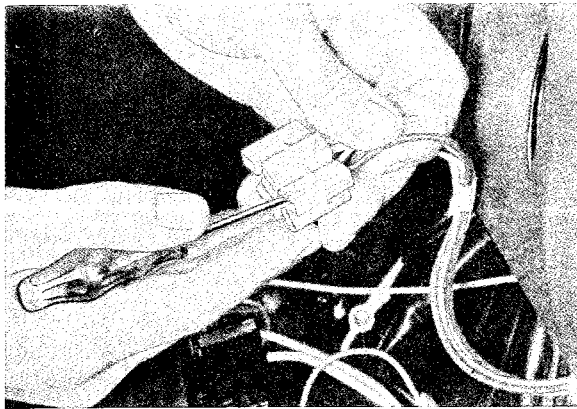

Fig. 8-75. Removing electric cables for contact unit
5. Disconnect the contact unit from the fan motor control and disconnect the fan motor electric cables from the contact unit (Fig. 8-75) and the control plate.